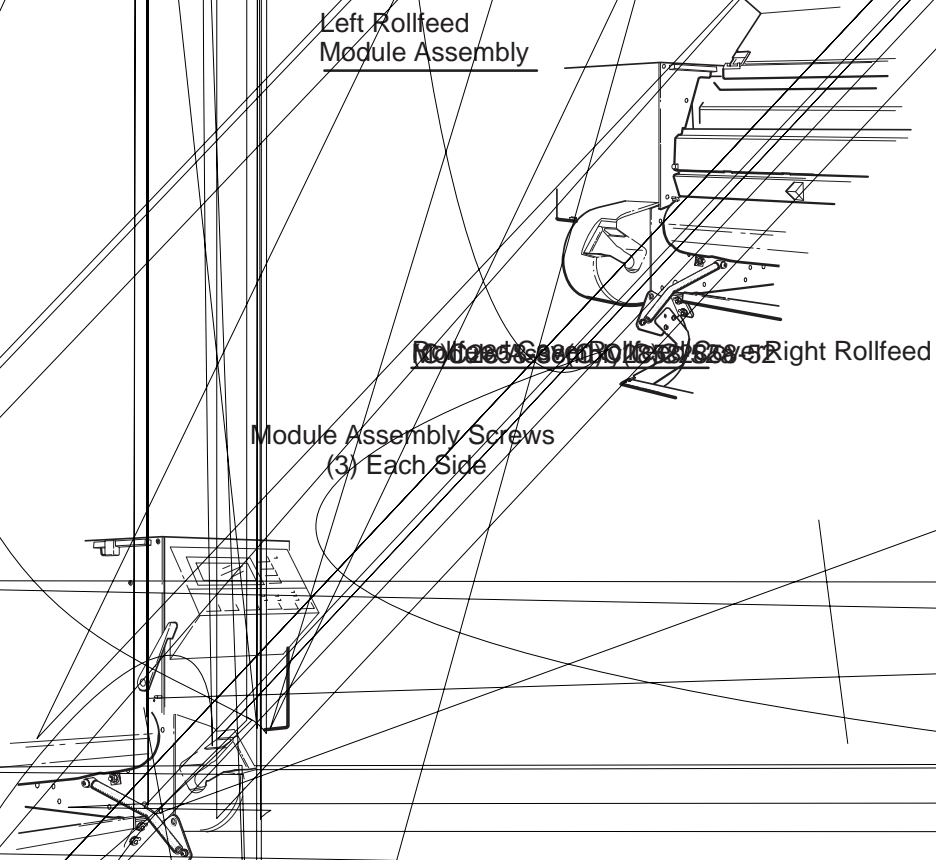

Figure 6-22.
3. Using a TORX T-20 screwdriver, remove the three screws that secure the rollfeed module assembly to the sideplate. See Figure 6-22.